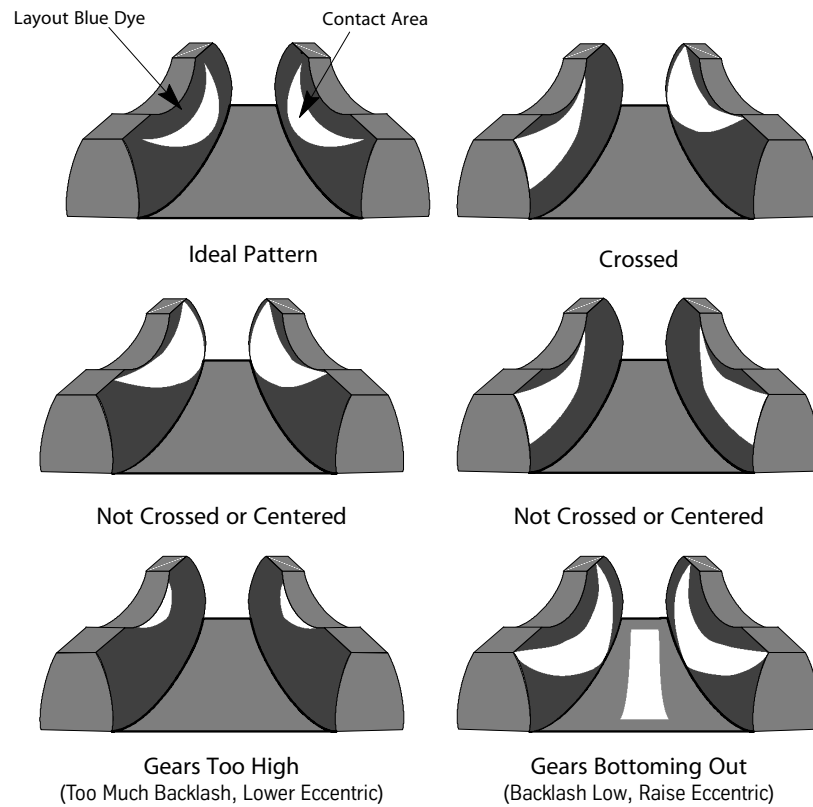

Figure 35 - Gear Patterns
3. Use solvent to remove the oil from three (3) gear teeth.
4. Spray or paint layout blueing on three (3) teeth in four (4) places (equally spaced around the sheave), and allow it to dry completely. See Figure 35 for all steps in this procedure.